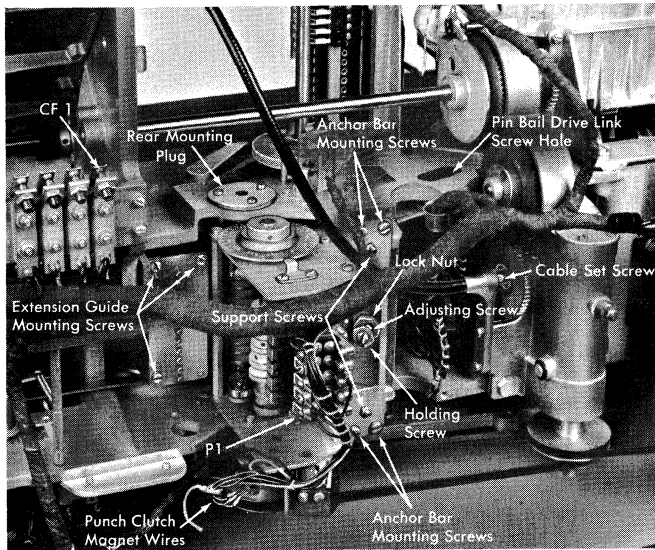

Figure 46. Punch Bed (Bottom View)
1. Remove lower punch extension guide (Figure 46). With two or three 2-inch pieces of card between die and stripper, push punches into the die.